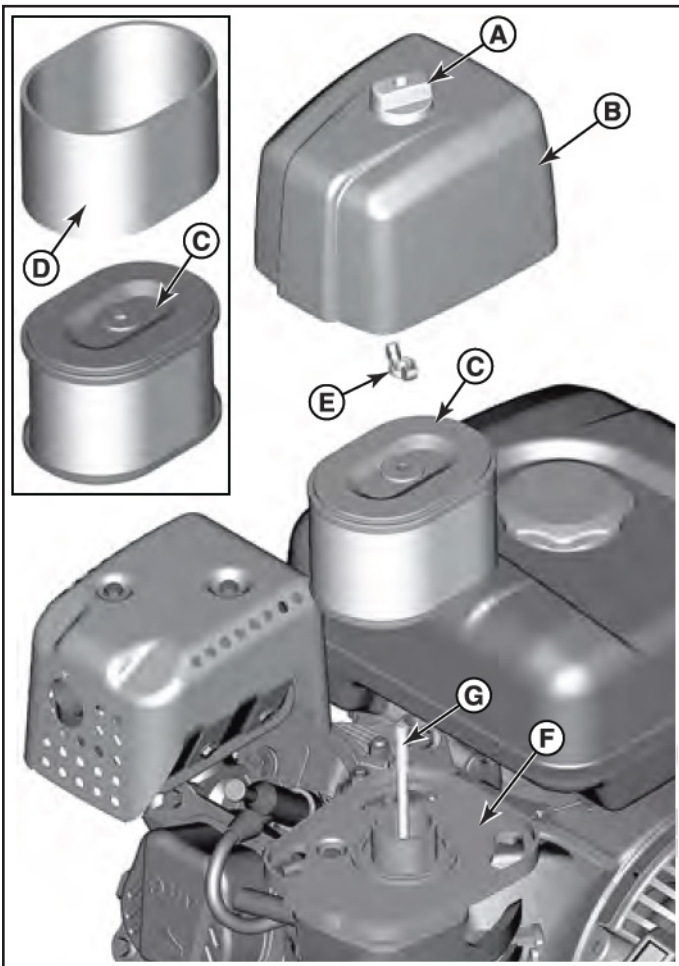

FIGURE 19
- Remove the cover **B** as shown in figure 19.
- To prevent debris from falling into the carburetor, carefully remove the pre-cleaner **D** and filter **C** from the air filter base **F**. See figure 19.
- Gently tap the filter **C** on a hard surface to loosen debris. If the filter is excessively dirty, replace with a new filter. See figure 19.
- Remove the pre-cleaner **D** from the filter **C**. See figure 19
- Install the filter **C** and pre-cleaner **D** to air filter base **F** and onto stud **G**. Make sure filter is properly assembled to air filter base and secure with fastener **E**. See figure 19.
- Install the cover **B** and secure with fastener **A**. Make sure fastener is tight. See figure 19.